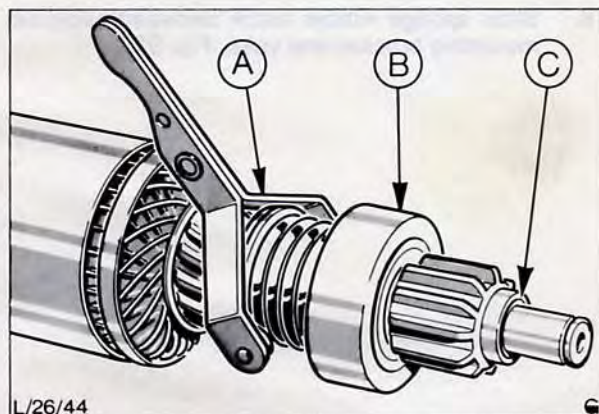

Fig. 89. Actuating fork – 'A', pinion/Clutch assembly – 'B' and thrust collar/'C' clip – 'C' in assembled position
15. Fit pinion gear assembly onto armature shaft with pinion teeth furthest from armature windings, Fig. 89. Slide thrust collar over shaft and then drive 'C' clip onto shaft and into its groove, with a suitable size tube. Draw thrust collar over 'C' clip using a suitable puller. For completed assembly see Fig. 89.